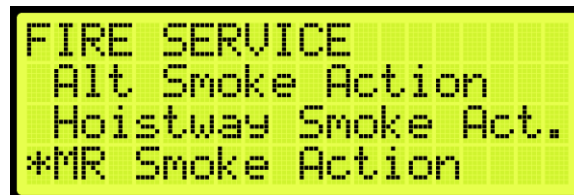

Figure 588: FIRE SERVICE Menu – MR Smoke Action
2. From the FIRE SERVICE menu, scroll and select MR Smoke Action (See Figure 588).